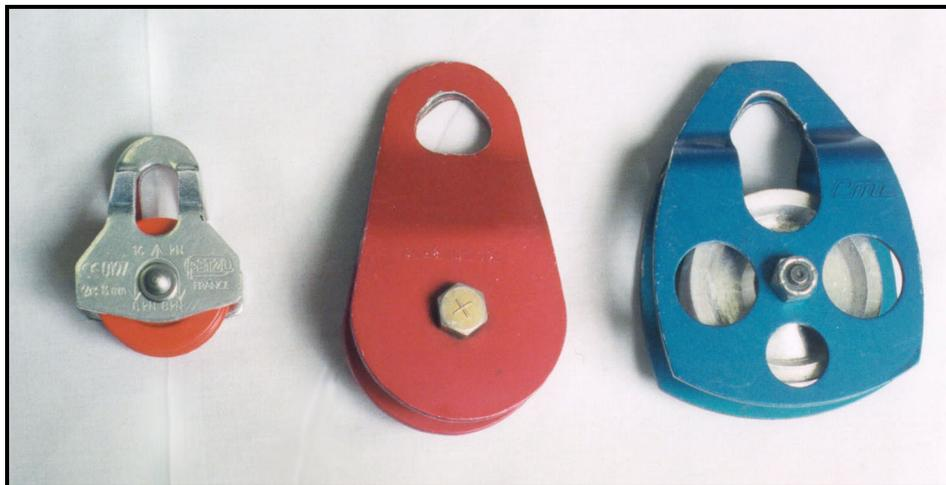

Figure 3-23. Pulley.
1. **Pulleys.** Pulleys are used to change direction in rope systems and to create mechanical advantage in hauling systems. A pulley should be small, lightweight, and strong. They should accommodate the largest diameter of rope being used. Pulleys are made with several bearings, different-sized sheaves (wheel), and metal alloy sideplates (Figure 3-23). Plastic pulleys should always be avoided. The sideplate should rotate on the pulley axle to allow the pulley to be attached at any point along the rope. For best results, the sheave diameter must be at least four times larger than the rope's diameter to maintain high rope strength.